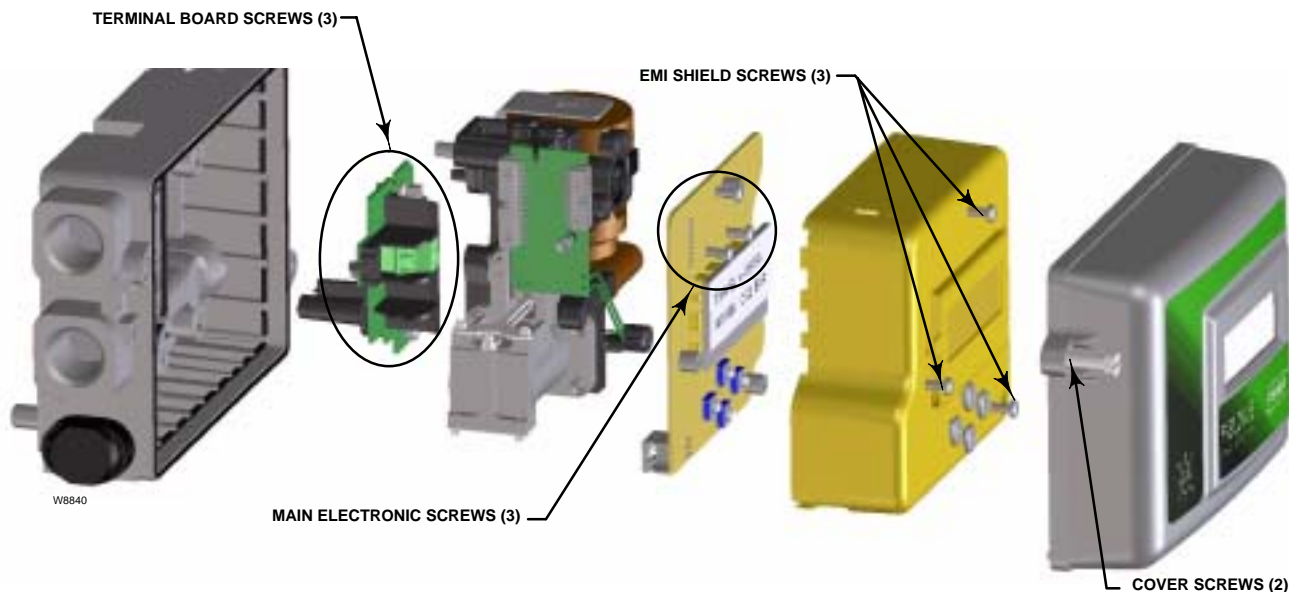

Figure 5-1. DVC2000 Exploded View
2. Remove the instrument cover (refer to figure 5-1).
2. Remove three screws that hold the EMI shield and remove the shield (refer to figure 5-1).
3. Remove the three screws holding the electronics board to the mounting frame (refer to figure 5-1).
9. Remove the three screws holding the terminal board to the housing (refer to figure 5-1).